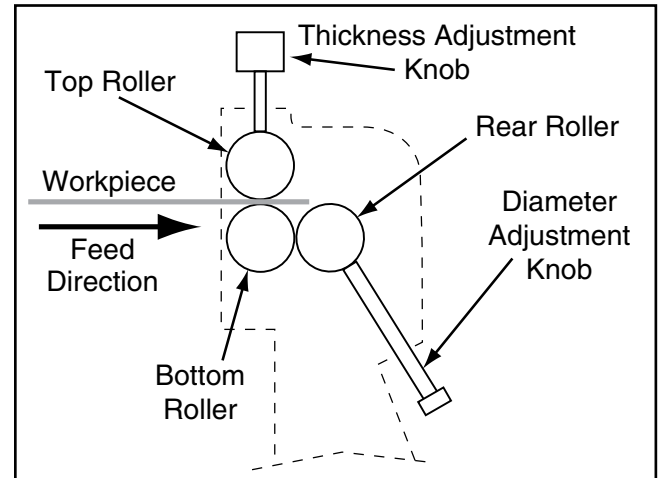

Figure 14. Diameter adjustment knob.
1. Use diameter adjustment knobs to lower rear roller until it is level with bottom roller, as illustrated in **Figure 14**.